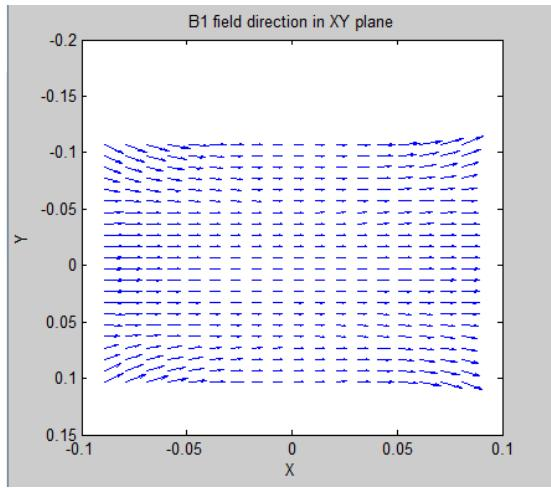

Figure 5.37: An Example of B1 Field on XY Plane.
- ^ : Undock B1 field on active B1 slicing plane (Figure 5.37)